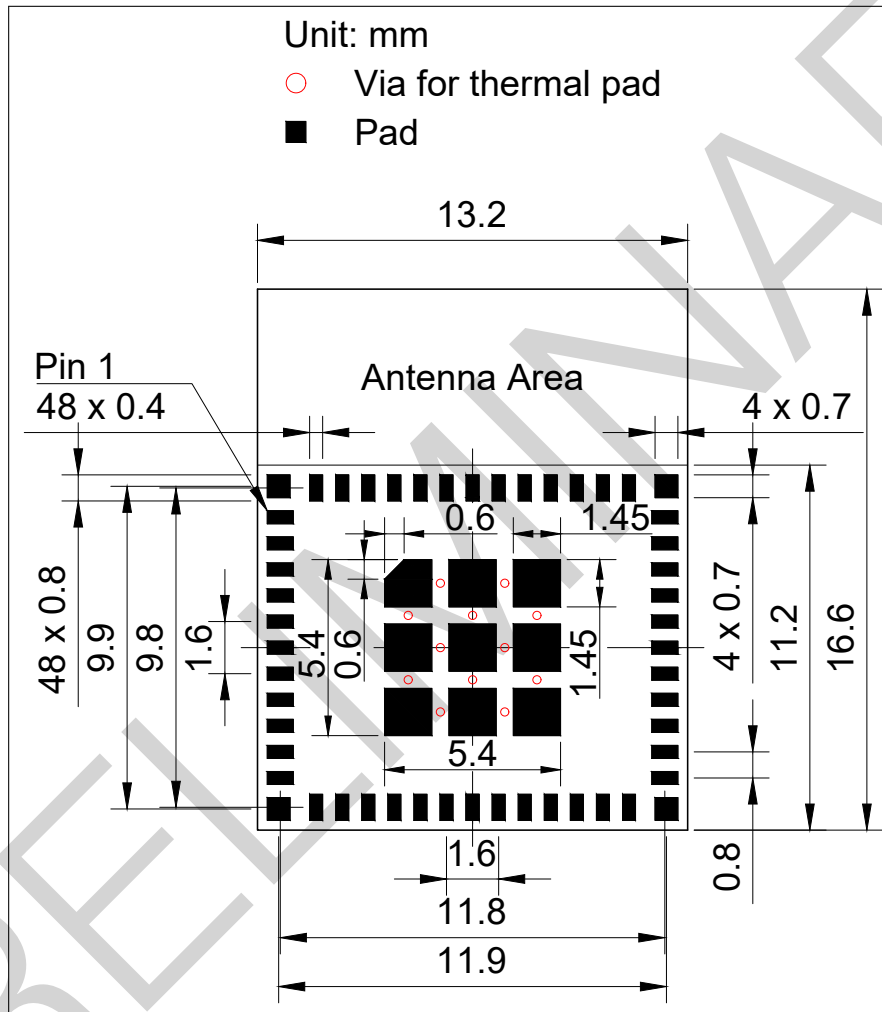
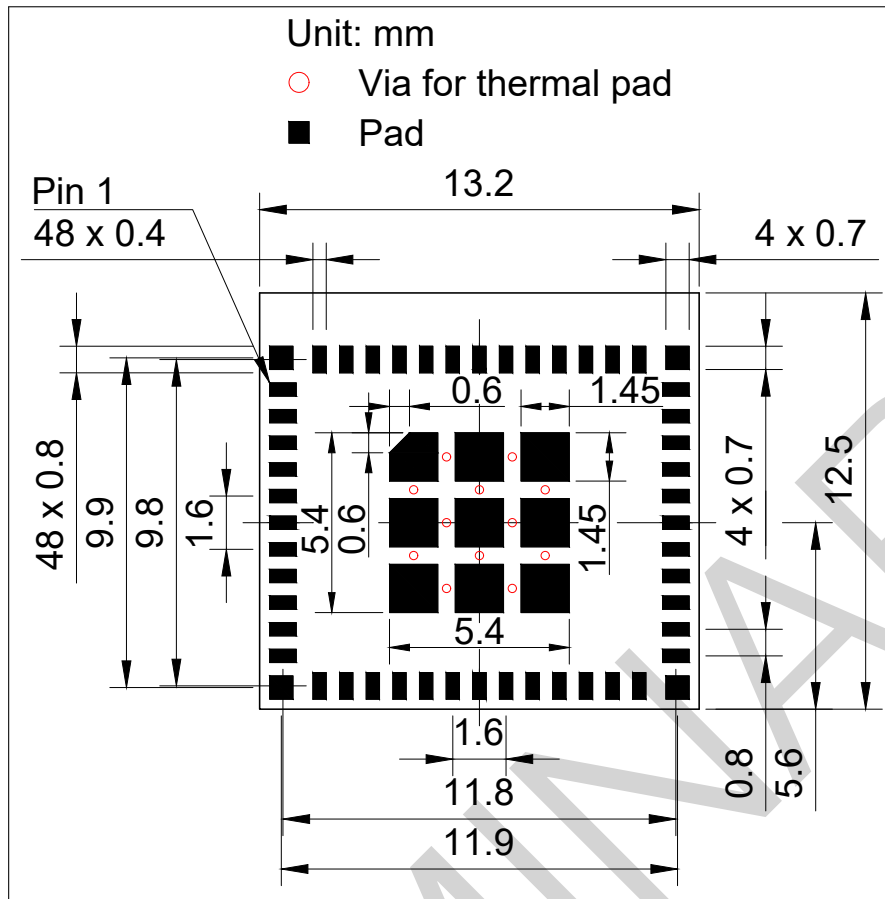

Figure 10: ESP32-H2-MINI-1 Recommended PCB Land Pattern
Figure 11: ESP32-H2-MINI-1U Recommended PCB Land Pattern
- Figures for recommended PCB land patterns with all the dimensions needed for PCB design. See Figure 10 *ESP32-H2-MINI-1 Recommended PCB Land Pattern* and Figure 11 *ESP32-H2-MINI-1U Recommended PCB Land Pattern*.
- Source files of recommended PCB land patterns to measure dimensions not covered in Figure 10 and Figure 11 . You can view the source files for ESP32-H2-MINI-1 and ESP32-H2-MINI-1U with Autodesk Viewer.